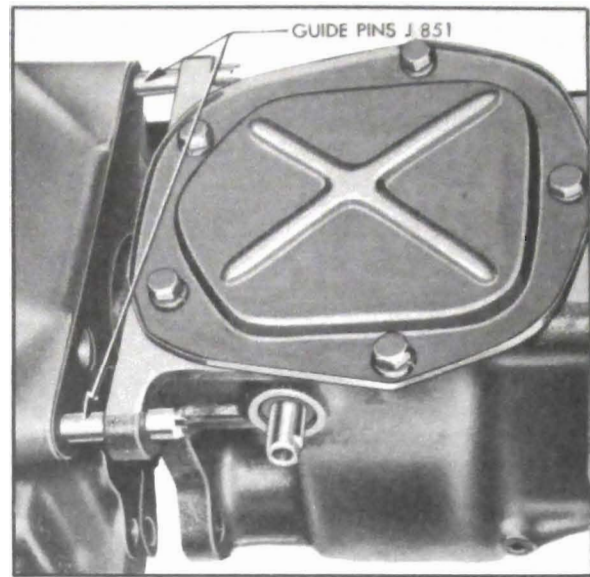

Figure 4-27—Transmission Guide Pins J 851
6. Remove the two top transmission to flywheel housing bolts and install Guide Pins J851 to support transmission. See figure 4-27. Remove lower bolts, then move transmission straight back and lower to floor. **CAUTION:** *If guide pins are not used and weight of transmis-*
2. Make certain that front face of transmission case and face of flywheel housing are absolutely clean. Install Guide Pins J 851 in upper bolt holes in housing (fig. 4-27) and install a new transmission gasket. Make certain that spring washer is in place behind clutch release bearing support in housing.